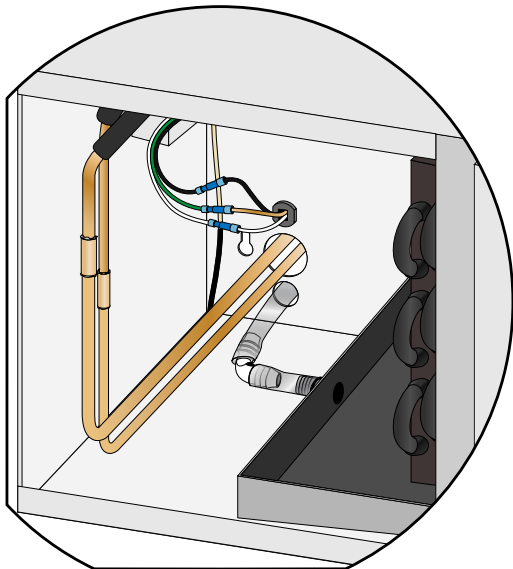
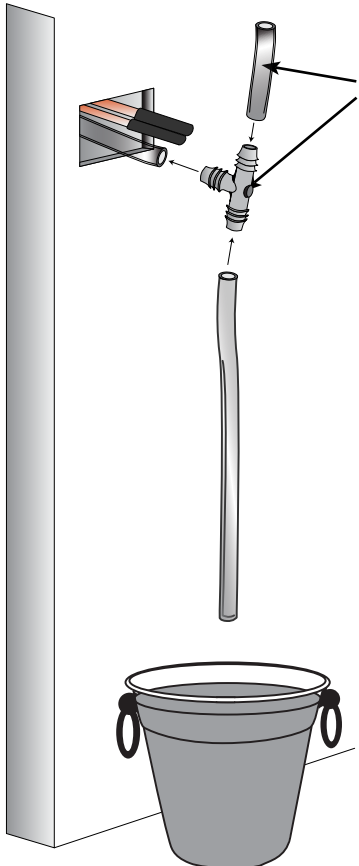
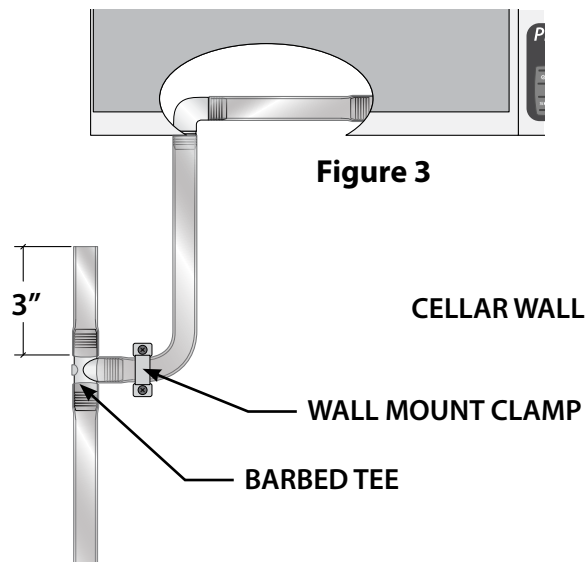

Figure 1
Figure 2
Figure 3
1. Depending on your desired installation, use the barbed elbow as shown in **Figure 1** or **Figure 2** to route the drain line from the drain pan to the exterior of the unit.
NOTE: Using the barbed tee as shown in **Figure 2** and **Figure 3** is recommended.